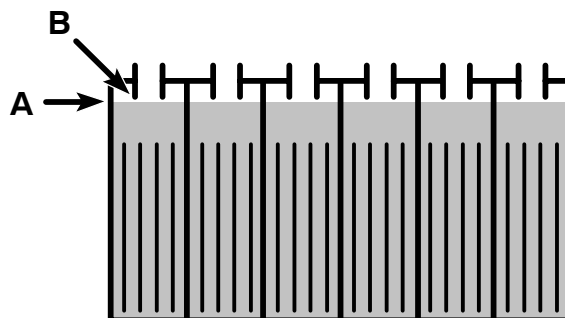

FIG. 37
8. Lead Acid Batteries: After charging, check the electrolyte level (A) again. The level should be approximately 1 cm from the bottom of the fill-port (B) (Figure 37). Add distilled water if needed. DO NOT OVERFILL.